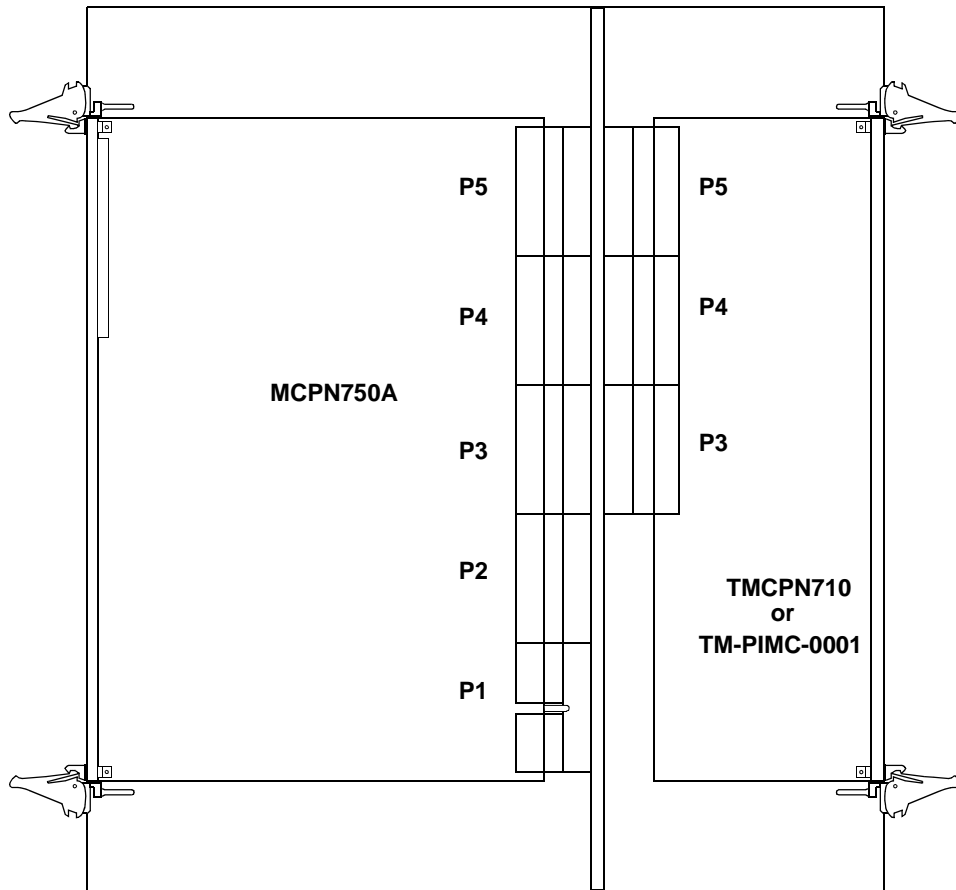

Figure 1-11. TMCPN710 or TM-PIMC-0001/MCPN750A Mating Configuration
3. With the TMCNP710 or TM-PIMC-0001 in the correct vertical position that matches the pin positioning of the corresponding MCPN750A board carefully slide the transition module into the appropriate slot and seat tightly into the backplane. Refer to Figure 1-11. TMCNP710 or TM-PIMC-0001/MCPN750A Mating Configuration for the correct board/connector orientation.